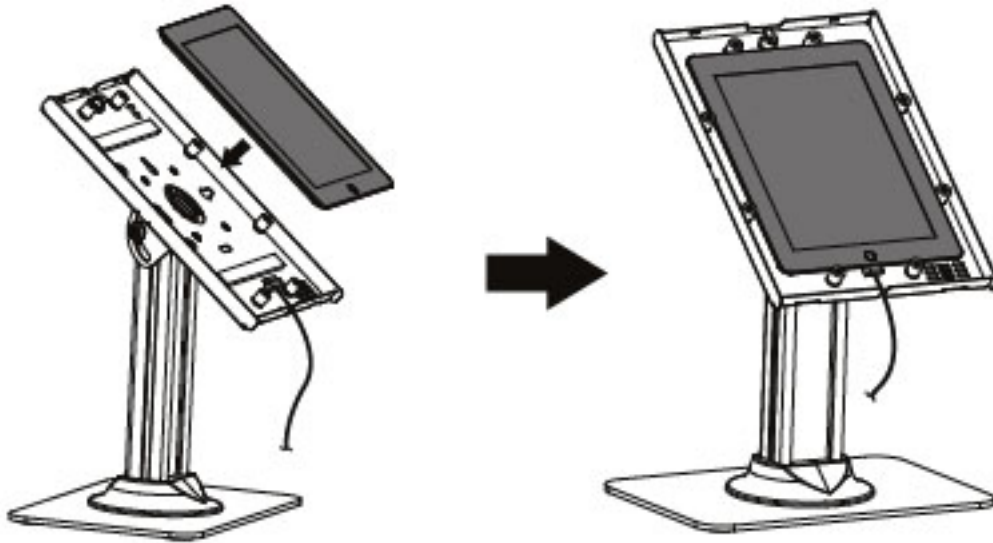

Figure 6
2. Connect the iPad's charging cable and route the cable through the cable management slot, see **Figure 6**.